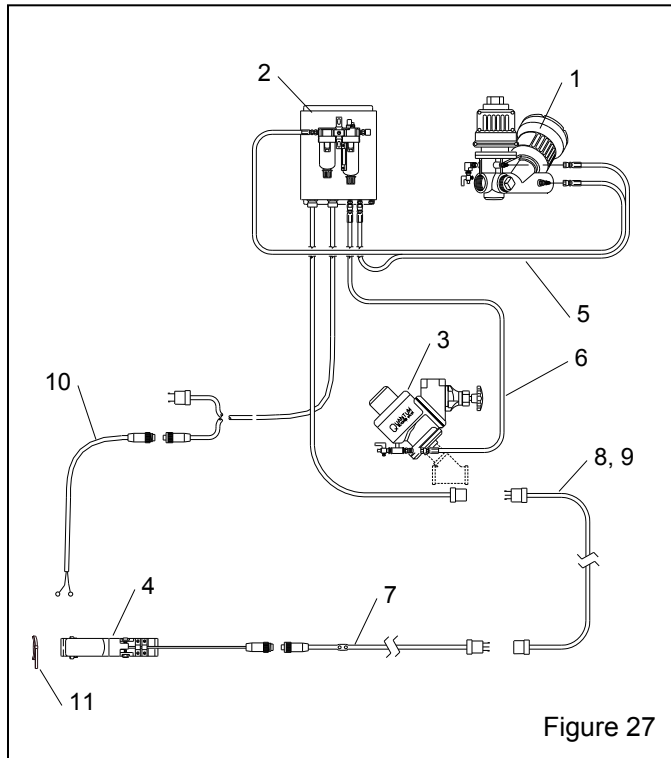

Figure 27
8.4 Remote Control System Parts, Figure 27